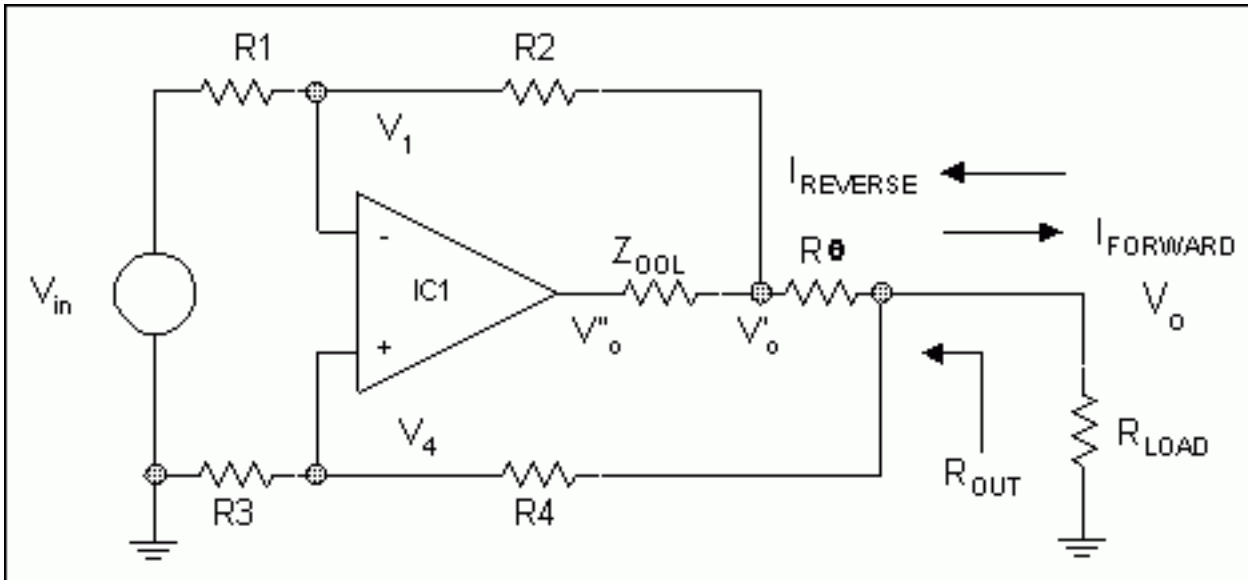

Figure 2. Single Op Amp active termination.
Note in Figure 2 that forward current into the load,  $I_{FORWARD}$ , is determined by  $V_O / R_{LOAD}$ .
**Figure 2** shows a single op amp with both negative and positive feedback loops setting gain and output impedance.  $R\theta$  is placed in series with the load, and is used to sample the current into the load. Positive feedback through  $R3$  and  $R4$  is used to boost the effect of  $R\theta$ . For circuit stability, negative feedback must dominate the proceedings, and this fact limits the amount of boost available.
Voltage Gain for Figure 2 is given by: